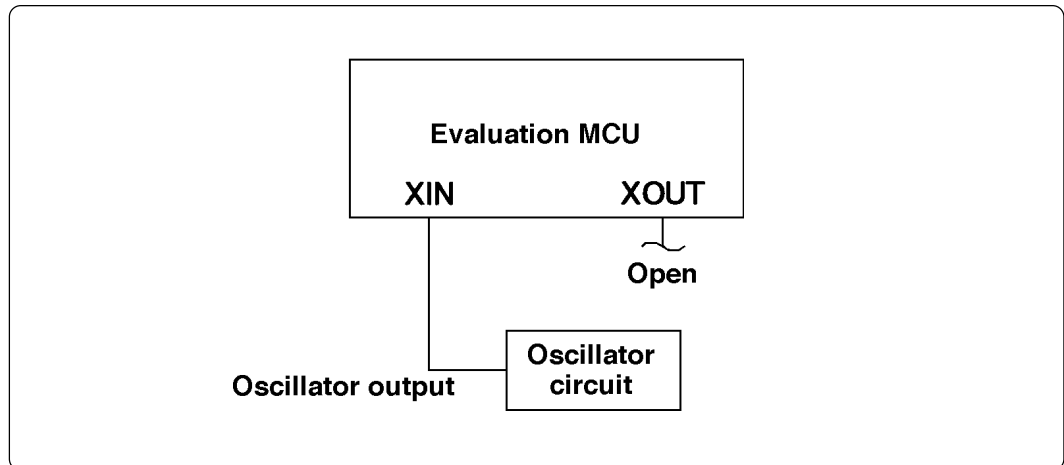

Figure 4.5 External oscillator circuit
(2) Using target system's oscillator
- a. To operate the emulator with an external clock, construct the oscillation circuit shown in Figure 4.5 in the target system and input the oscillation output at 40-60% duty into the Xin (Xcin) pin.